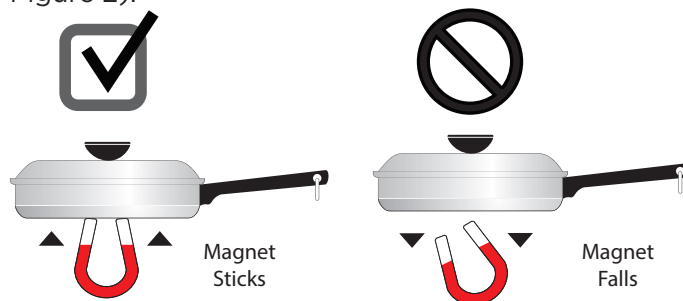

Figure 4: Magnet test
- **Stainless Steel** - Slow heat conductor with uneven cooking results. Durable, easy to clean, and resists staining. Some types of stainless steel will not work on an induction cooktop. Use the magnet test (see "Figure 4: Magnet test") to check stainless steel cookware.